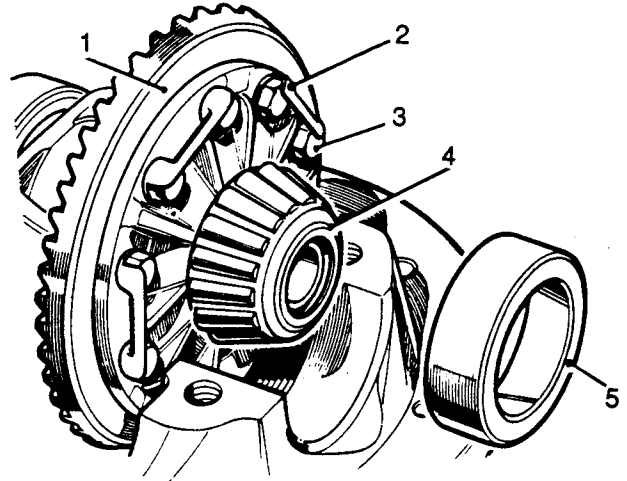

Fig J2.61
- (8) Refer to Fig J2.61. Align the crownwheel (1) with the differential case.
- (9) Locate lockplates in place (2).
- (10) Fit crownwheel securing bolts (3) noting that there are two fitted bolts 10 mm diameter which must be fitted diametrically opposite. The remaining bolts are 9.5 mm diameter. Tighten the bolts evenly to avoid distortion. Torque 48 N.m for all the bolts.
- (11) Press on the differential roller bearings (4).
- (12) Fit the bearing outer races (5) and locate the differential into the pinion housing.